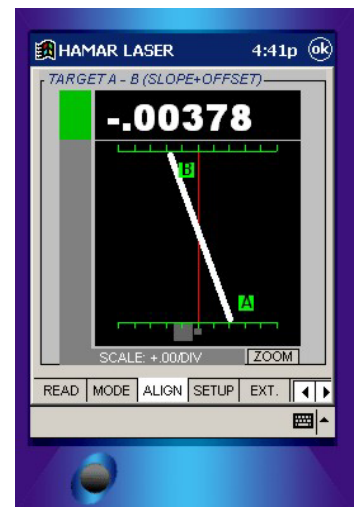

Figure 5 – Read9 ALIGN Screen showing the difference between Targets A and B relative to the laser plane.
6. Use the yaw adjustment on the laser base to make the second vertical laser plane parallel to the offset centerline, using the temporary reference targets as guides. When the same reading appears on both reference targets, the laser is parallel to the centerline. This task has been greatly simplified by the "A-B" Feature of the R-1309 Cassiopeia Readout (see Figure 5) and the A-1519 Single-Axis Wireless Targets. The feature subtracts one reference target reading from the other and displays the difference in a graphical format. Adjust the laser until the difference is zero and the laser is bucked in.